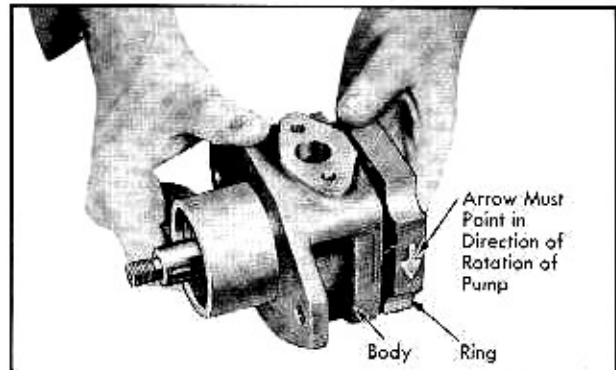

Fig. 7-21 Installing Cam Ring
9. Install cam ring on dowel pins and over rotor and vanes. Position correctly according to scribed marks. Fig. 7-21.